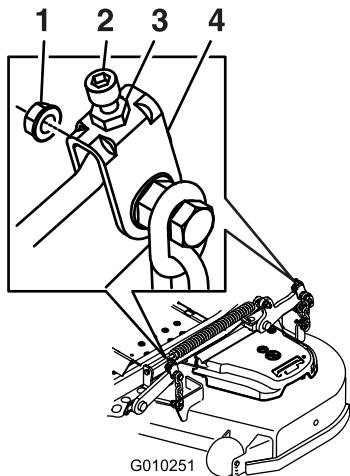

Figure 92
10. If needed, loosen the flanged locknut on the side of the yoke and the jam nut on top. Fine-tune the adjuster screw by turning it to get 7.6 mm (3 inch) height (Figure 92).
16. Fine-tune the adjuster screw by turning it to get 8.3 mm (3-1/4 inches) height (Figure 92). To increase the height, turn the adjustment nut clockwise; to decrease the height, turn the nut counterclockwise.